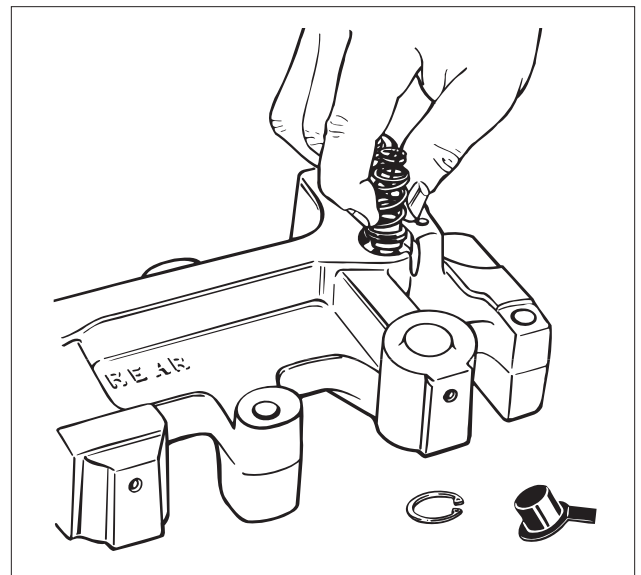

FIG. 14
2. Slowly remove cover until spring pressure ceases, then remove the control valve springs and collar (see Fig. 14).